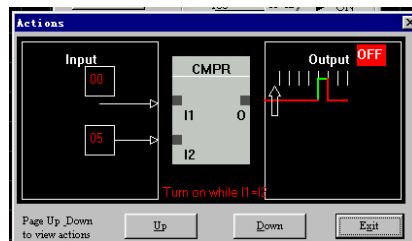

Fig. 3.23 Show of Analog Comparison Functions
- ※ Action view: show the function of the analog comparison module. The displaying diagram is as in Fig. 3.23. It can clearly and directly describe the running process of the analog comparison.